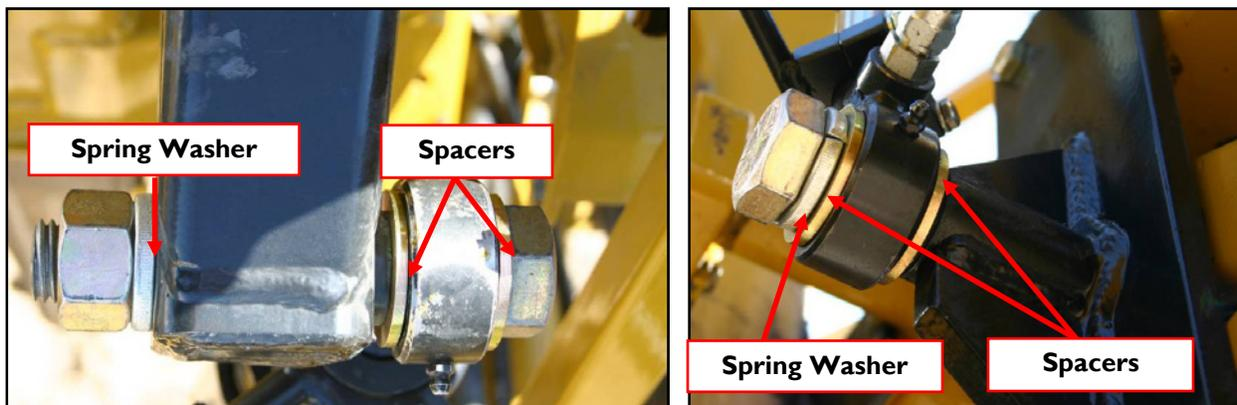

Figure 27: Top Mount (Top View)
2. If replacing or mounting the Linear Roll Cylinder be careful not to move the shaft of the cylinder because doing so will push oil out and suck air in. Bolts should be tightened to 500 ft-lbs (Figure 27).